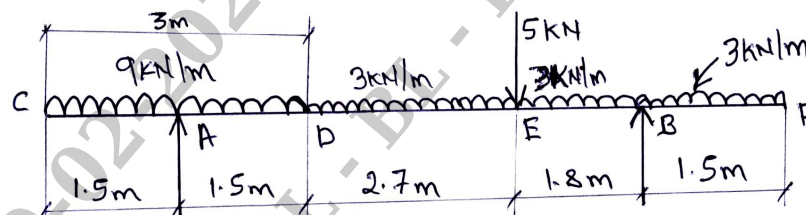

Fig.Q6(b)
- b. Draw SFD and BMD for the beam shown in Fig.Q6(b). Determine the position at which the positive BM occurs. Find also magnitude of the maximum positive and negative bending moment.